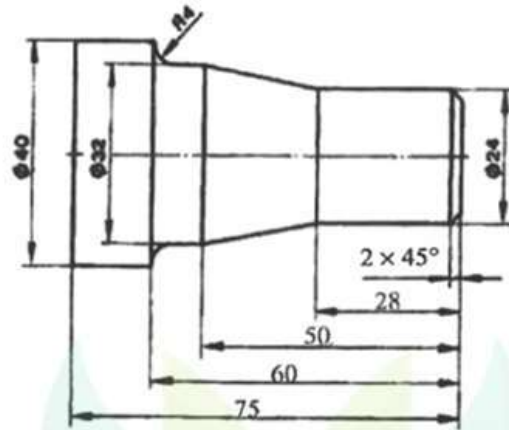

Fig. 15 (a) Component to be machined
- (b) (i) Citing suitable example, explain closed loop control system in a CNC machine. (8)
- (ii) Explain the point-to point and continuous control systems in a CNC machine. (5)
15. (a) A mild steel cylindrical rod of diameter 40 mm and length 75 mm is to be machined as shown in Fig. 15(a). Assume cutting speed as 150 m/minute and feed as 0.2 mm/revolution. Write a program for producing the shaft. Assume missing data appropriately.